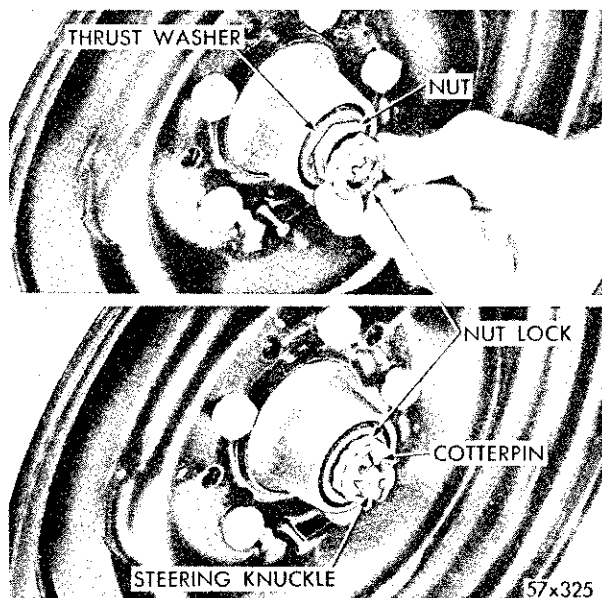

Fig. 11—Positioning Bearing Nut Lock
11. FRONT WHEEL BEARINGS (Fig. 11)